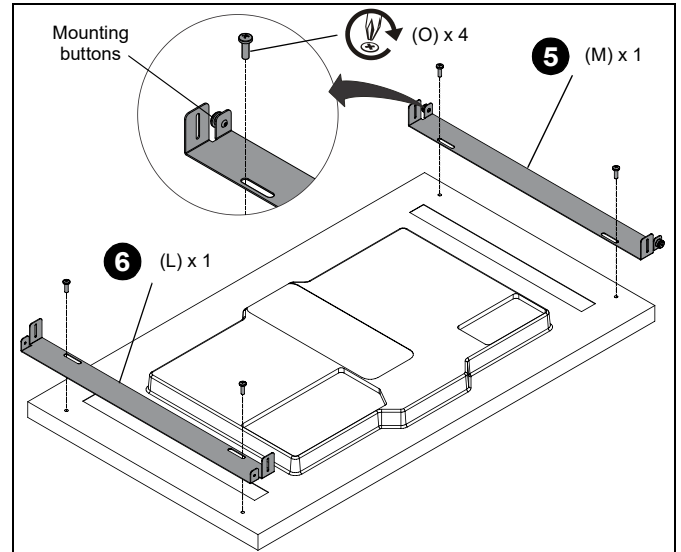

Figure 7
6. Install upper interface bracket (M) to top edge of monitor using two M8 x 16 mm screws (O). (See Figure 7)
7. Install lower interface bracket (L) to bottom edge of monitor using two M8 x 16 mm screws (O). (See Figure 7)